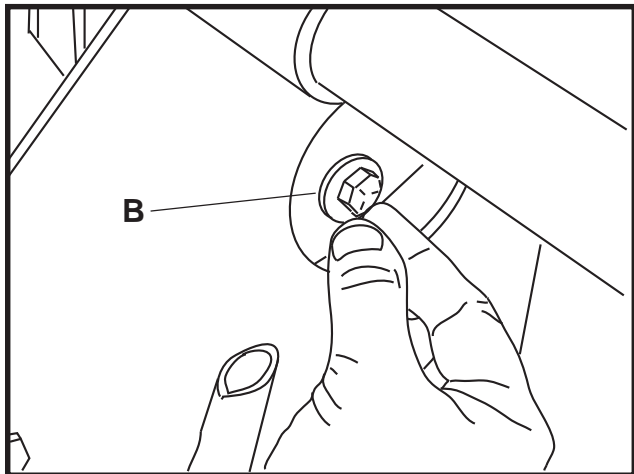

**FIGURE 3**
3. Install 1/2" x 3" bolt and washer through frame mount and jack assembly. Add 1/2" lock nut with washer and tighten. See Figure 3.